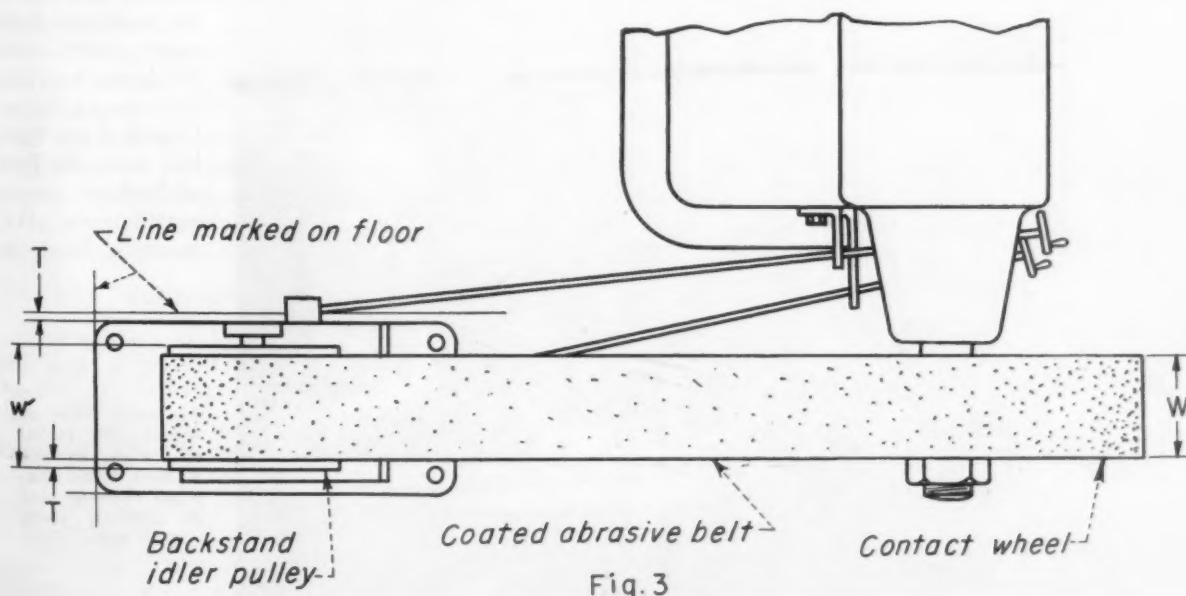

Fig. 3
If the idler pulley is wider than the contact wheel, move the idler pulley assembly as shown in Fig. 3 a distance (T) equal to one half the difference in widths w-W